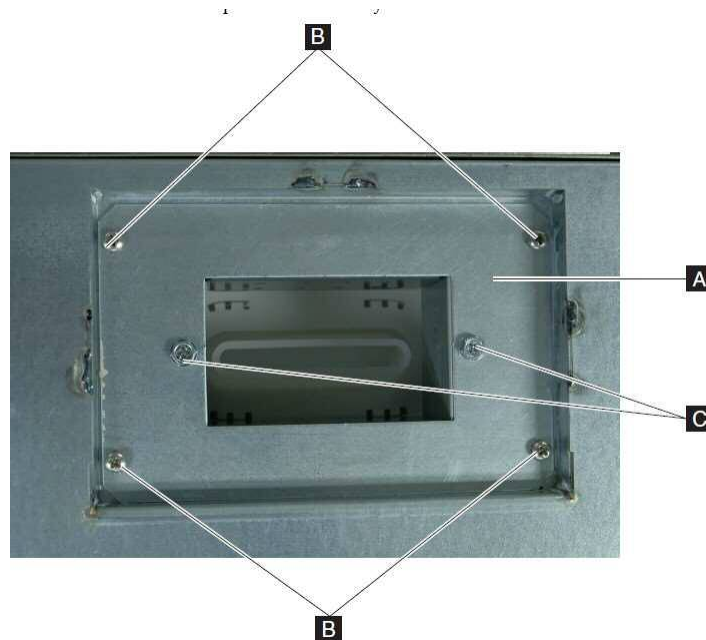

Figure 2: Coupon box view from below
- b) Remove the 4 (2.5MM hex head) black corner screws (**B**) in the mounting plate to drop the assembly from the cabinet as showing in Figure 2. You **DO NOT** need to remove the 2 screws (**C**) mounting the coupon sensor to the mounting plate. Confirm hex key size to prevent stripping of fastener.